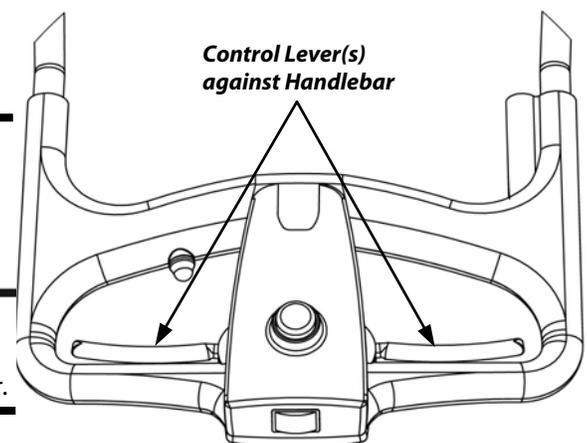

Figure 21
- Squeeze and hold the orange Control Lever(s) (**Figure 21**).